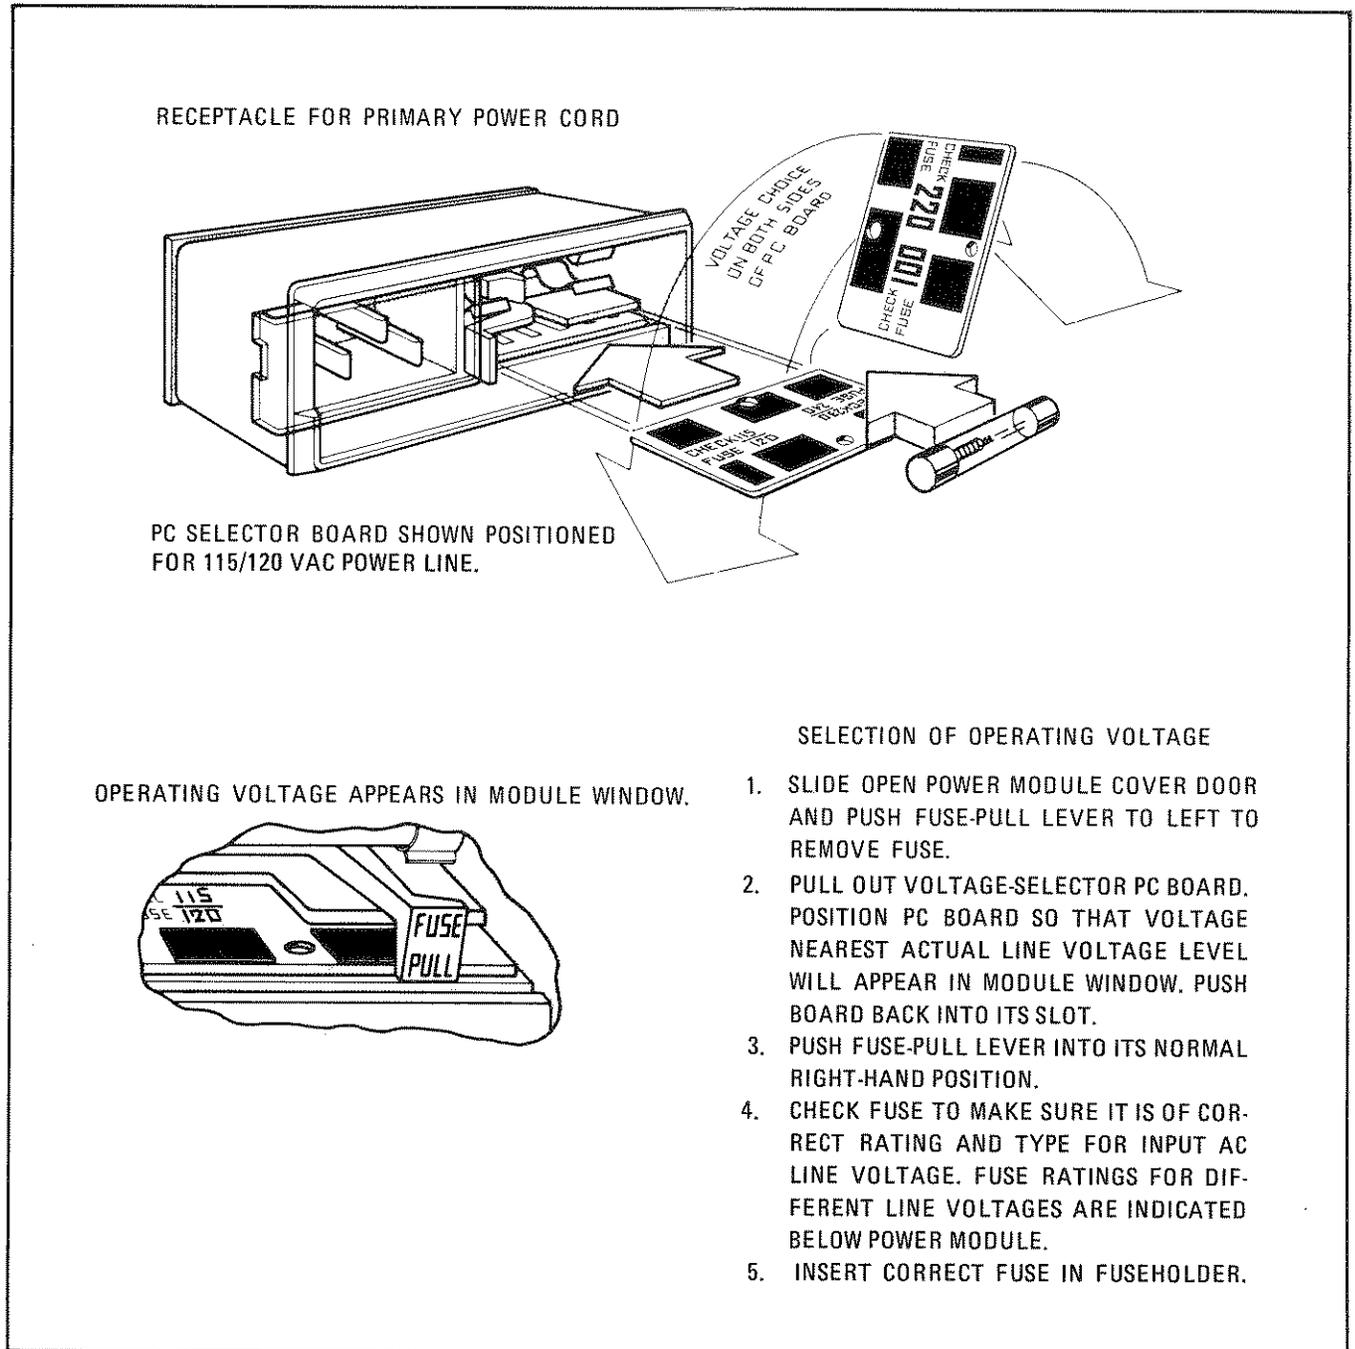

Figure A2-3. Line Voltage Selection with Power Module PC Board
- See Figure A2-3. At each of the instrument's two rear-panel power line modules, select the